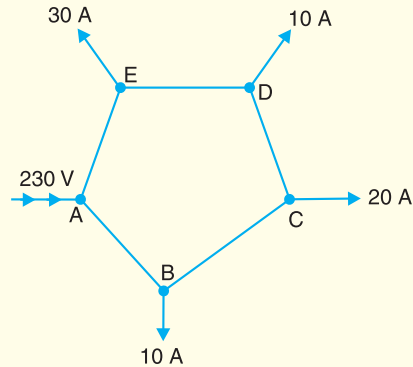

Fig. 13.46
2. A d.c. 2-wire ring main  $ABCDEA$  is fed from 230 V supply as shown in Fig. 13.46. The resistance of each section (go and return)  $AB, BC, CD, DE$  and  $EA$  is 0.1 W. The loads are tapped off as shown. Find the voltage at each load point.